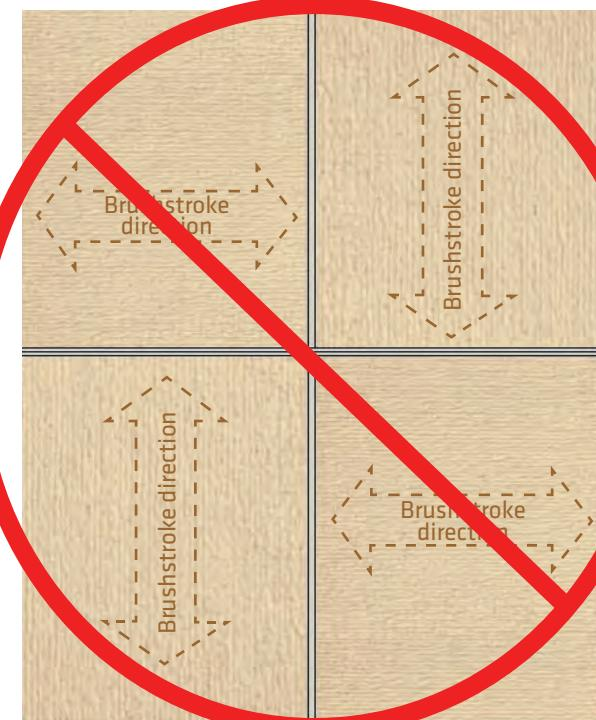

Figure 3D
- DO NOT installing panel siding with brushstroke running in different directions. \(Figure 3D\)